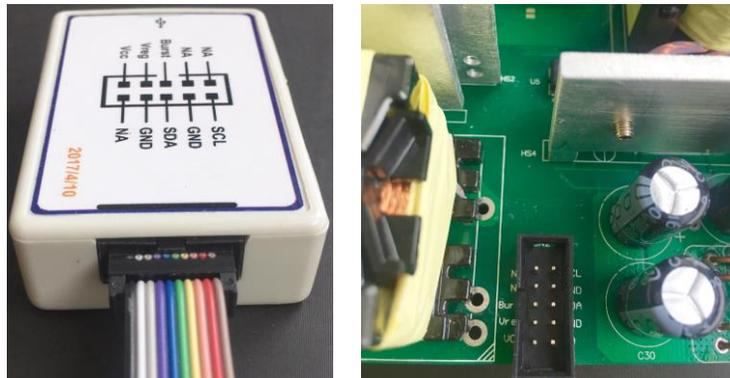

Figure 8: EVB to MPS I²C Communication Interface Wire Connection
3. Connect VCC, VREG, BURST, SCL, SDA, and GND (see Figure 8). If needed, refer to the datasheet for further clarification.